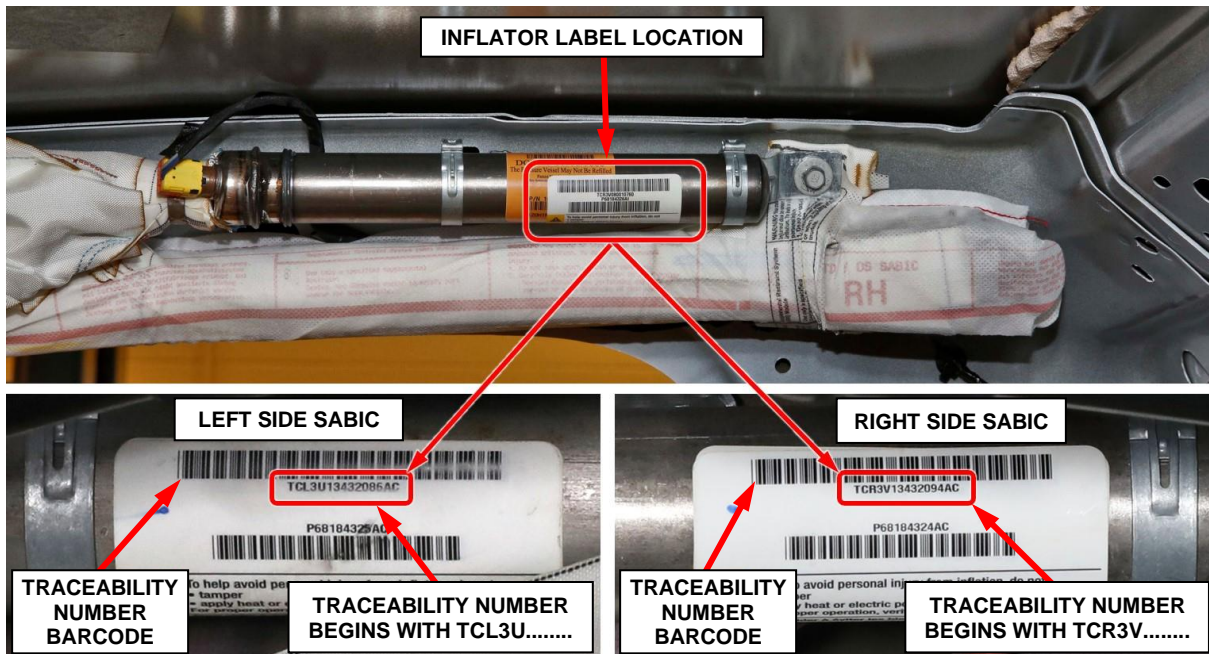

Figure 60 – SABIC Inflator Traceability Number Inspection
- Locate the label on SABIC inflators. The traceability number will begin with TCL3Uxxxxxxxx for the left side or TCR3Vxxxxxxxx for the right side as shown in (Figure 60).